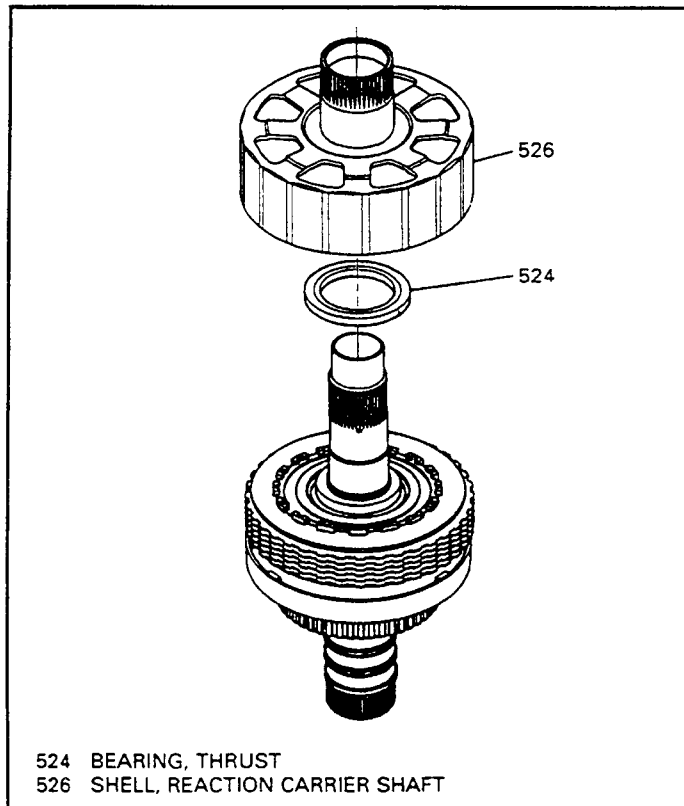

Figure 136
32. Install thrust bearing (524) on top of the sprag assembly and retain with "Trans-Jel" as shown in Figure 136.
33. Install the reaction sun shell (526) onto input housing. The splines on inside of the shell must engage on the direct clutch lined plates, shown in Figure 136.